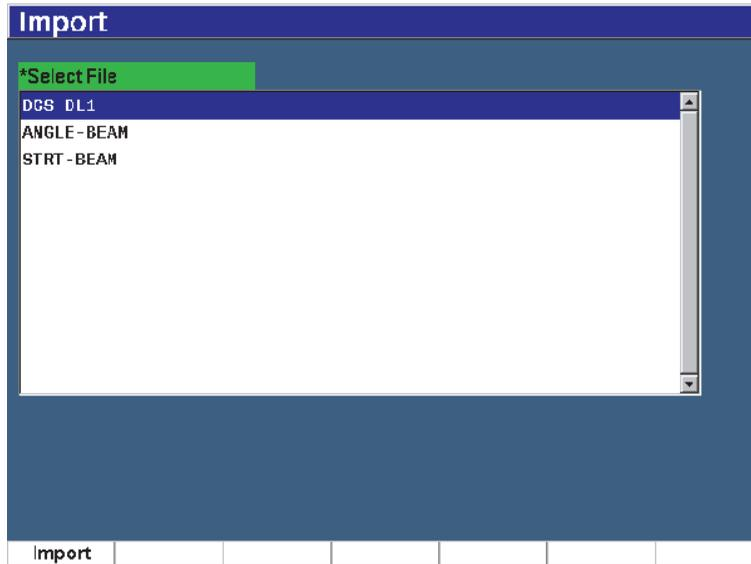

Figure 10-21 Import (memo) page
1. Press **Import Memo**, (P7 key) to display the **Import** page (see Figure 10-21 on page 213).